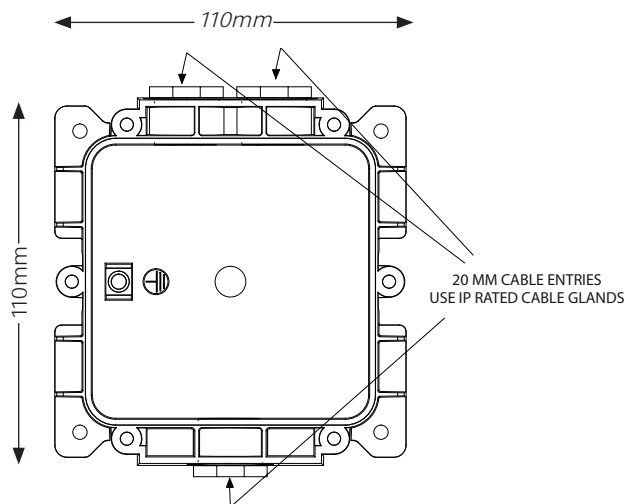

Fig. 1 Backbox
- Place the earthing plate behind the backbox (see Earth continuity plate section). Fit the backbox to a flat surface using the four fixing holes. The cable entry holes should be in the vertical plane. The backbox can be mounted with either the single or double entry holes at the top (Fig. 1). **Note: All MCP installation and securing screws have a maximum tightening torque of 0.6Nm.**